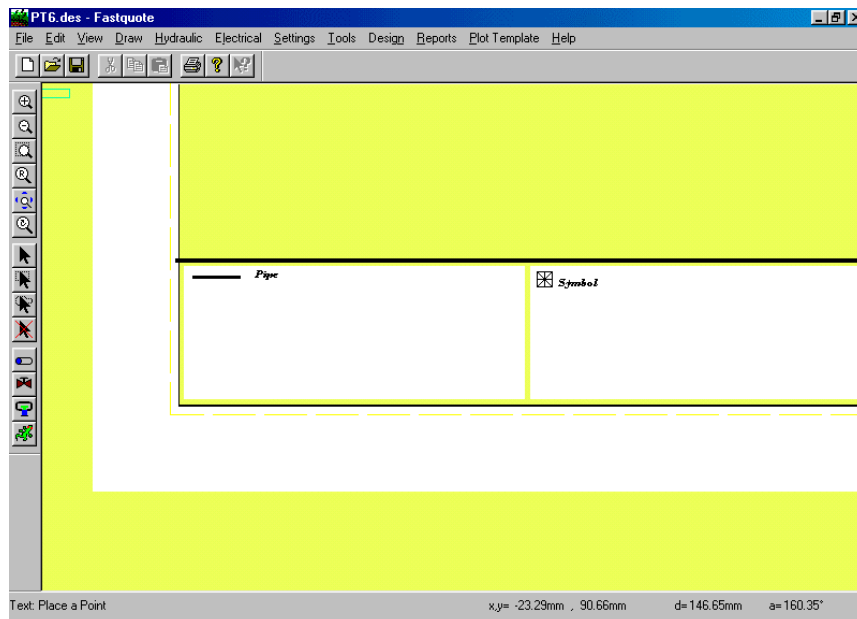

Figure PT 6
12. Select *Draw|Text* and type in the word Symbol. Set the font and size the same as for the pipe legend. Place the text to the right of the symbol. See Figure PT 6.